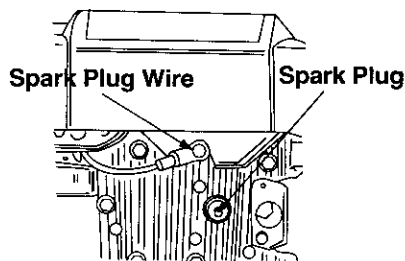

Figure 1
- Before setting up your lawn mower, disconnect the spark plug wire from the spark plug, and ground it to a bolt, retaining post or V-slot on the engine. See Figure 1.